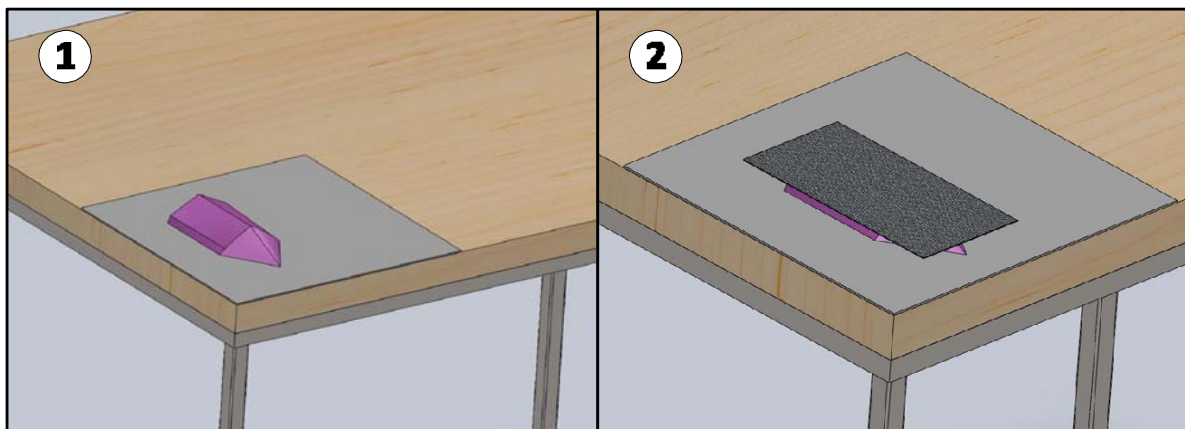

Figure 4: Prepare the plug for the matting- (1) Place scrap under the plug to prepare for application of the resin. (2) Center the matting over the plug.
- A. Center the fiberglass matting over the plug as shown in Figure 4(2).